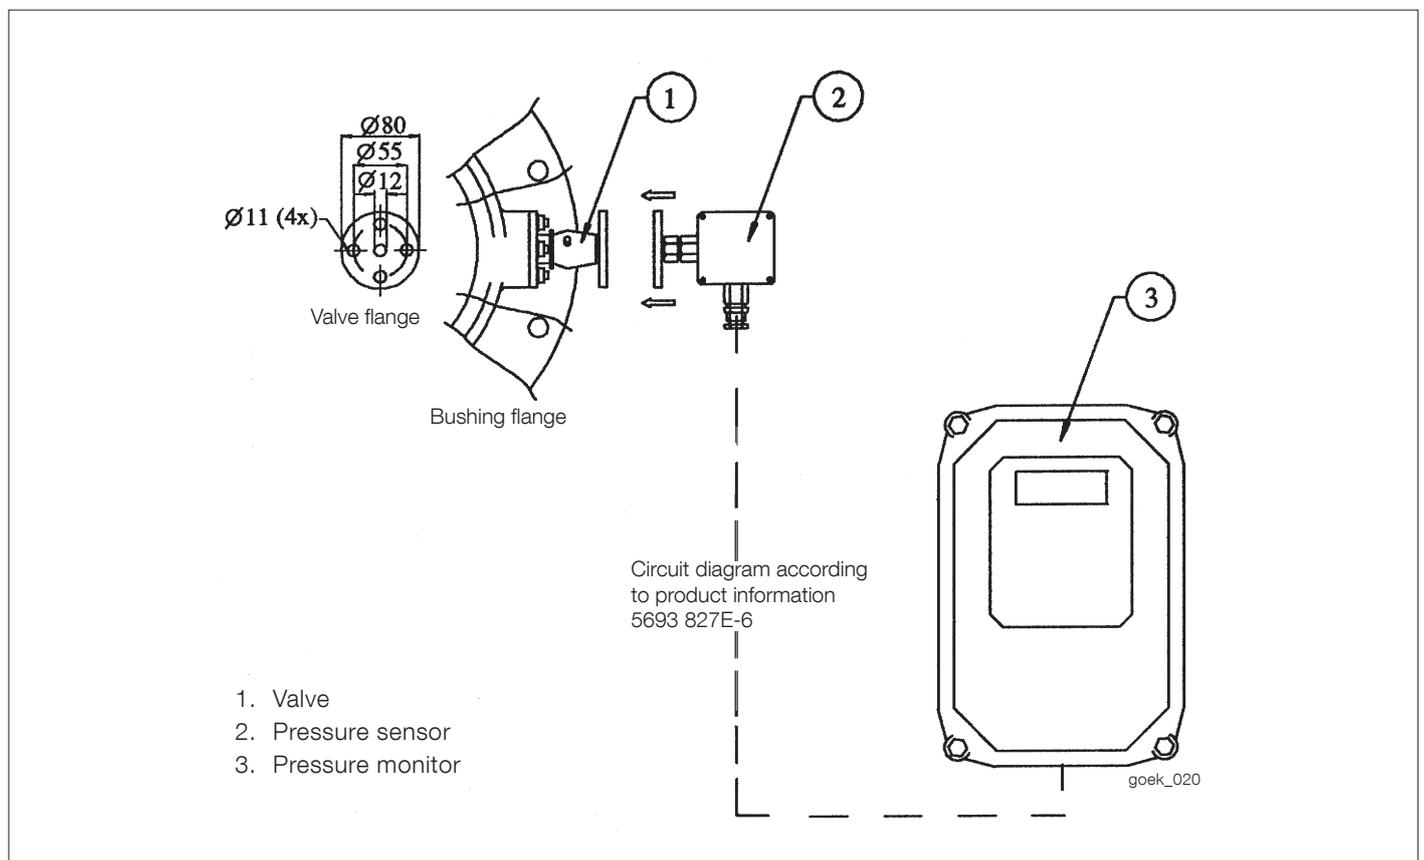
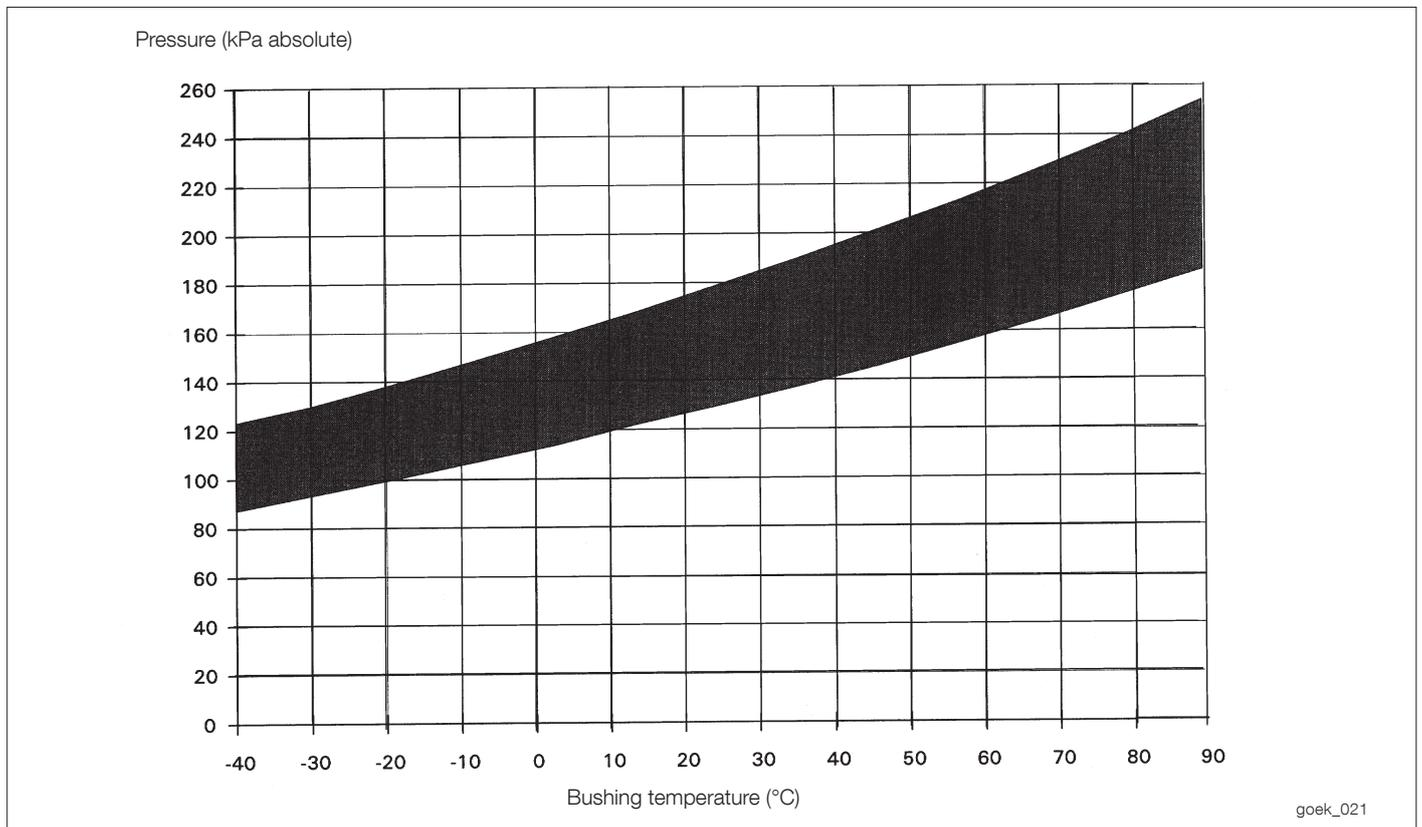

Fig. 20. Connection of pressure monitoring equipment.
Fig. 21. Pressure - temperature diagram.
If a pressure monitoring equipment is included, it shall be connected to the bushing flange e.g. according to Fig. 20.
For other bushing temperatures the pressure diagram in Fig. 21 can be used. If a pressure sensor acc. to Fig. 20 is connected to the bushing, the present pressure can be read. The pressure monitor shows overpressure and is delivered with 3 pressure relays. One relay shall give alarm at too low pressure and is preset at -15 kPa negative pressure = 85 kPa (absolute). The second relay is preset at 150 kPa overpressure = 250 kPa (absolute) and shall give alarm at too high pressure. The third relay is preset at 250 kPa overpressure = 350 kPa (absolute) and can be used for tripping the transformer breaker.
- Compare the pressure to the pressure-temperature diagram Fig 21.